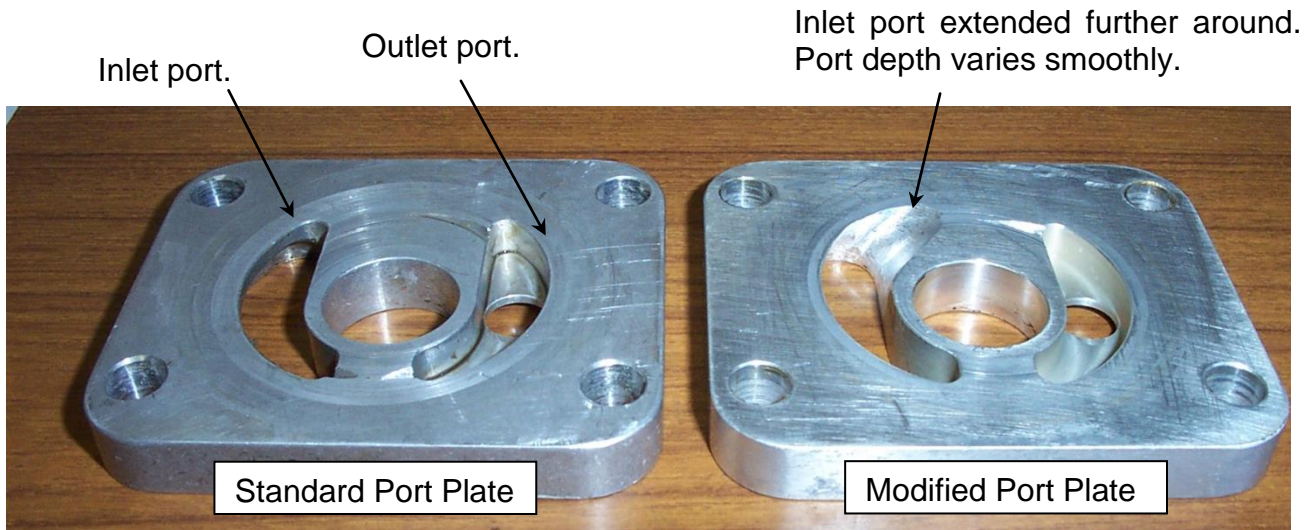

Figure 1. Front Side of Port Plates (Tractor Installation)
- e) Place the port plate back on the engine. Ensure that the plate is oriented correctly, as shown in Figure 1. The inlet port is on the Passenger's side of the aircraft (tractor installation). The less symmetric face of the port plate (the side with one large, curved port and one smaller, round port) mates to the crankcase.